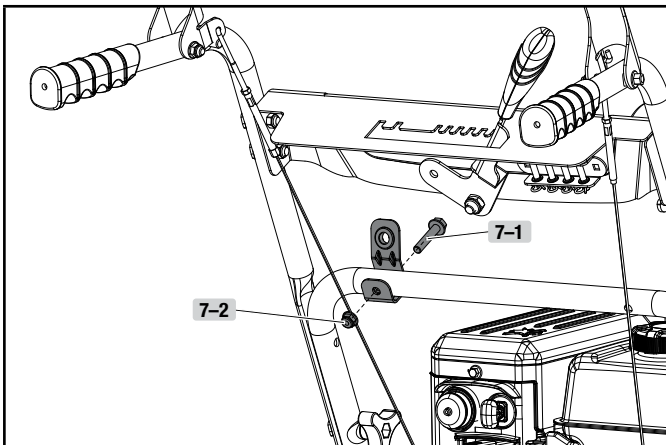

Figure 7
3. Discharge chute bracket should be placed forward as shown (for correct placement). Do not overtighten. Connect discharge chute guide to lower handle with 1 bolt (7-1), and 1 lock nut (7-2) (Fig. 7).